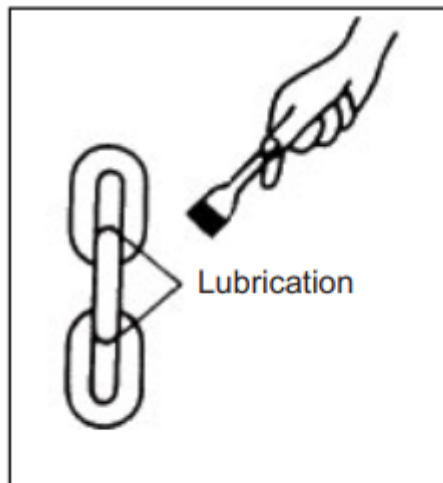

FIGURE 1
- Lubricate the load chain along the whole length with machine oil (See Fig. 1).